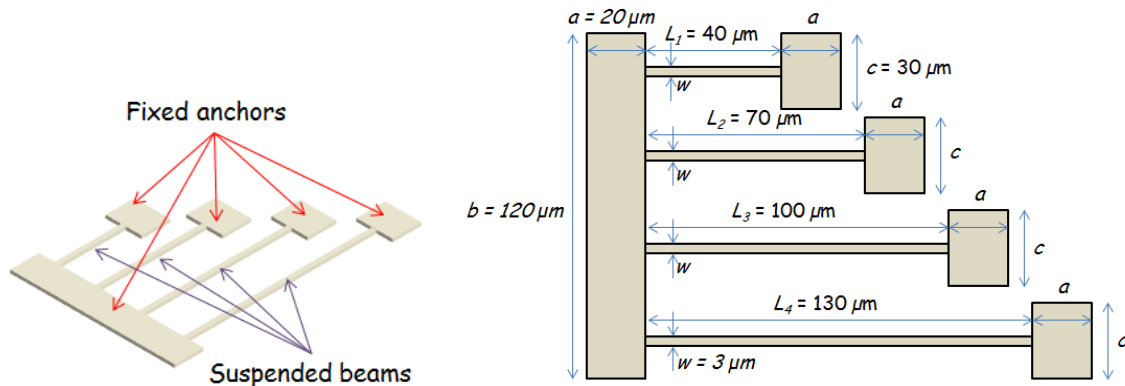

Figure 1 (a) and (b). Fixed-fixed beam array for problem 1.
1. One method to estimate the compressive stress in a thin film is to fabricate fixed-fixed beams of varying lengths, as shown in Figure 1(a). Here, the length of the smallest beam that buckles gives a lower limit on the compressive stress in the film. For this problem, assume the structure has the dimensions shown in Figure 1 (b).
The structure illustrated in Figure 1 can be fabricated on a (100) Si wafer using the following one mask fabrication process:
- Spin positive PR, expose using the pattern shown in Figure 1 (b), then develop